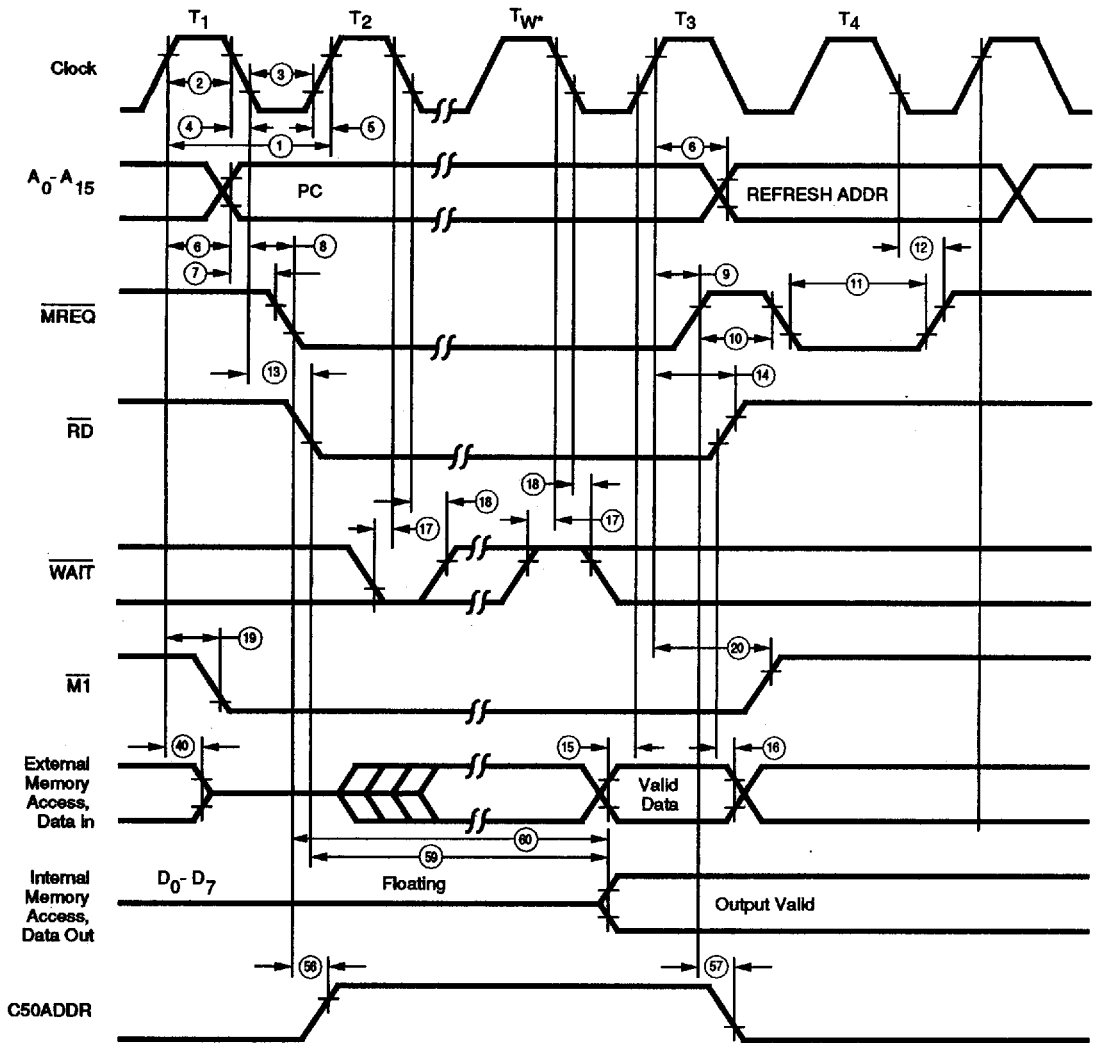

Figure 16. Instruction Op code Fetch
Instruction Opcode Fetch. The CPU places the contents of the Program counter (PC) on the address bus at the start of the cycle (Figure 16). Approximately one-half clock cycle later, \overline{MREQ} goes active. When active, \overline{RD} indicates that the memory data can be enabled onto the CPU data bus.